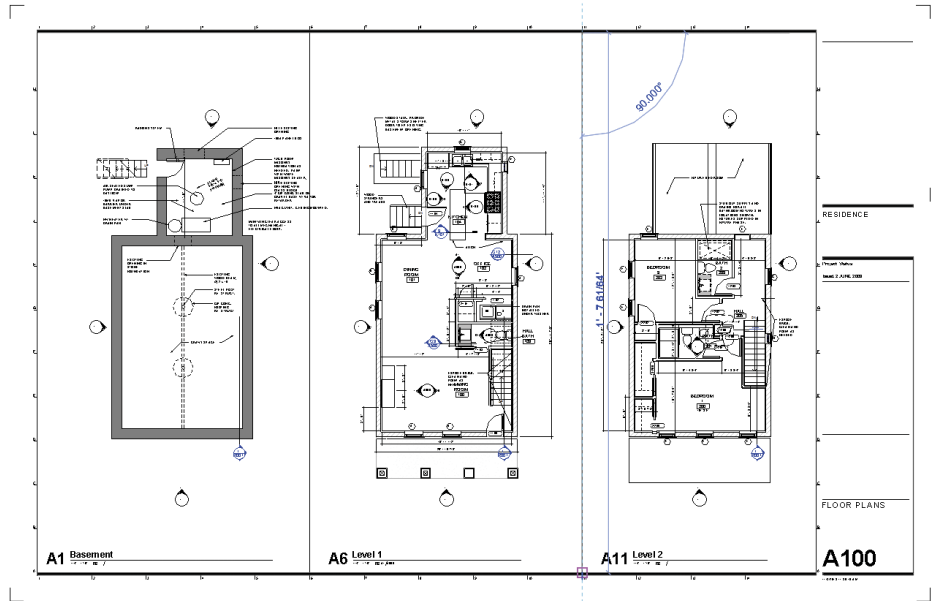

FIGURE 12.20 Adding lines to the sheet
9. By default, the Line tool is active. You can select one of the nodes on the sheet between views and draw a vertical line between the Basement and Level 1 plans and again between the Level 1 and Level 2 plans (Figure 12.20).